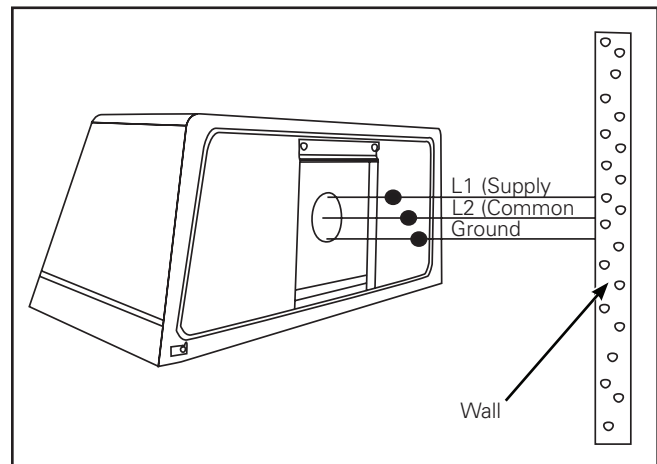

Figure 2.
Wiring (Figure 2.)
4. Complete the connections per the diagram (Figure 2.) and the NEC or Canadian standards using approved methods and devices.